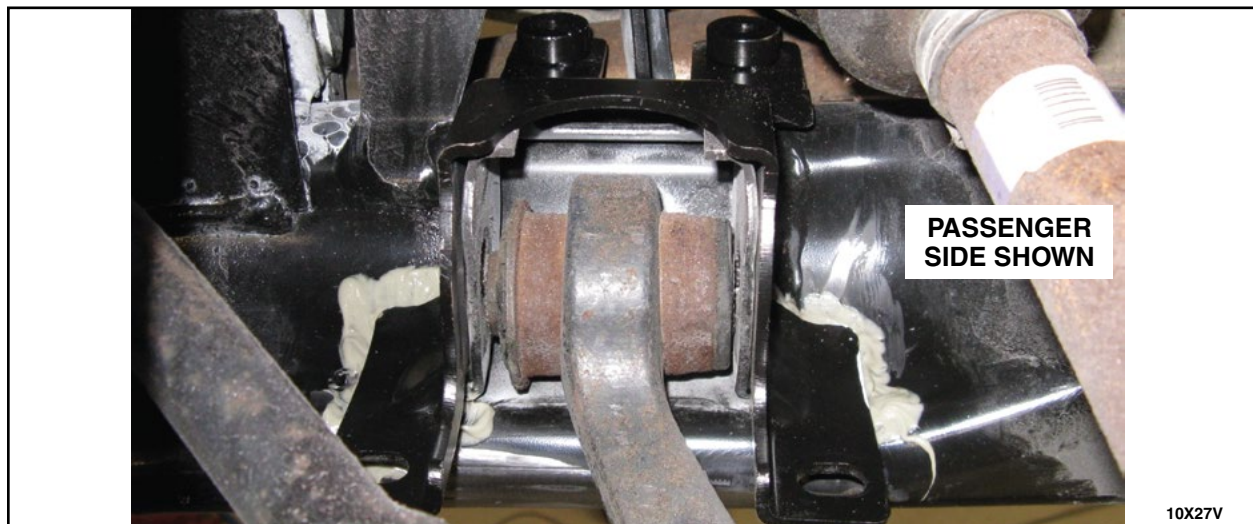

FIGURE 14
16. Place the passenger side upper section of the LCA reinforcement bracket onto the subframe. Make sure the reinforcement bracket is snug against at least one of the flanges. If you have cut the flanges, position the reinforcement bracket so the flanges are centered within the bracket. After the LCA reinforcement bracket has been positioned, do not pull it away from the subframe. See Figure 14.